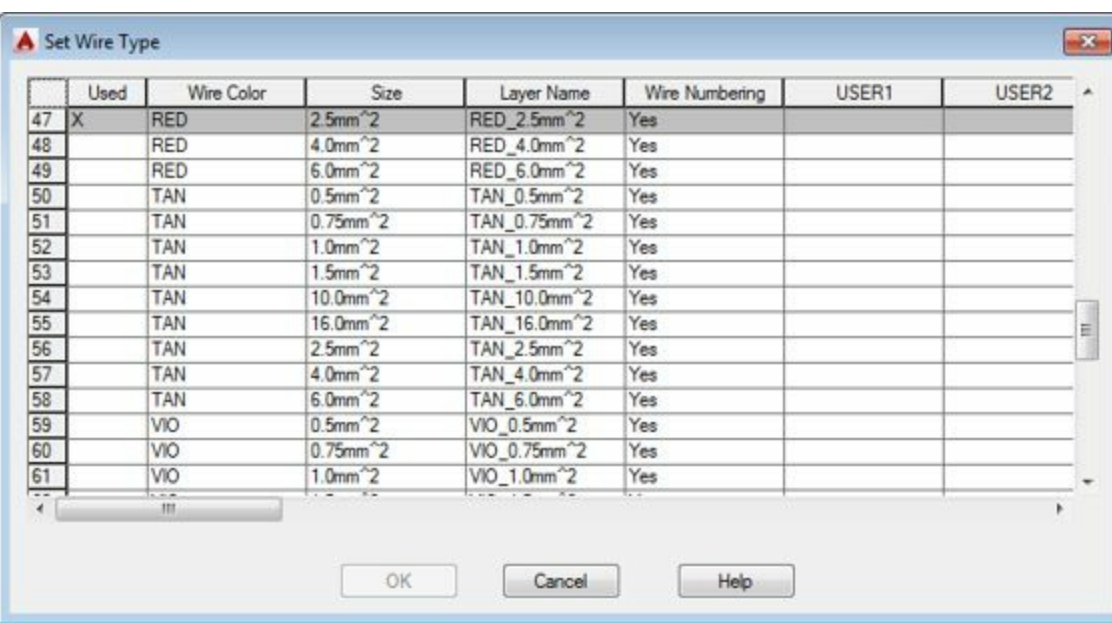

Figure-3. Set Wire Type dialog box
- Click in the **wireType** button in the command prompt or type **T** and press **ENTER** to change the wire type. The **Set Wire Type** dialog box will be displayed as shown in Figure-3.